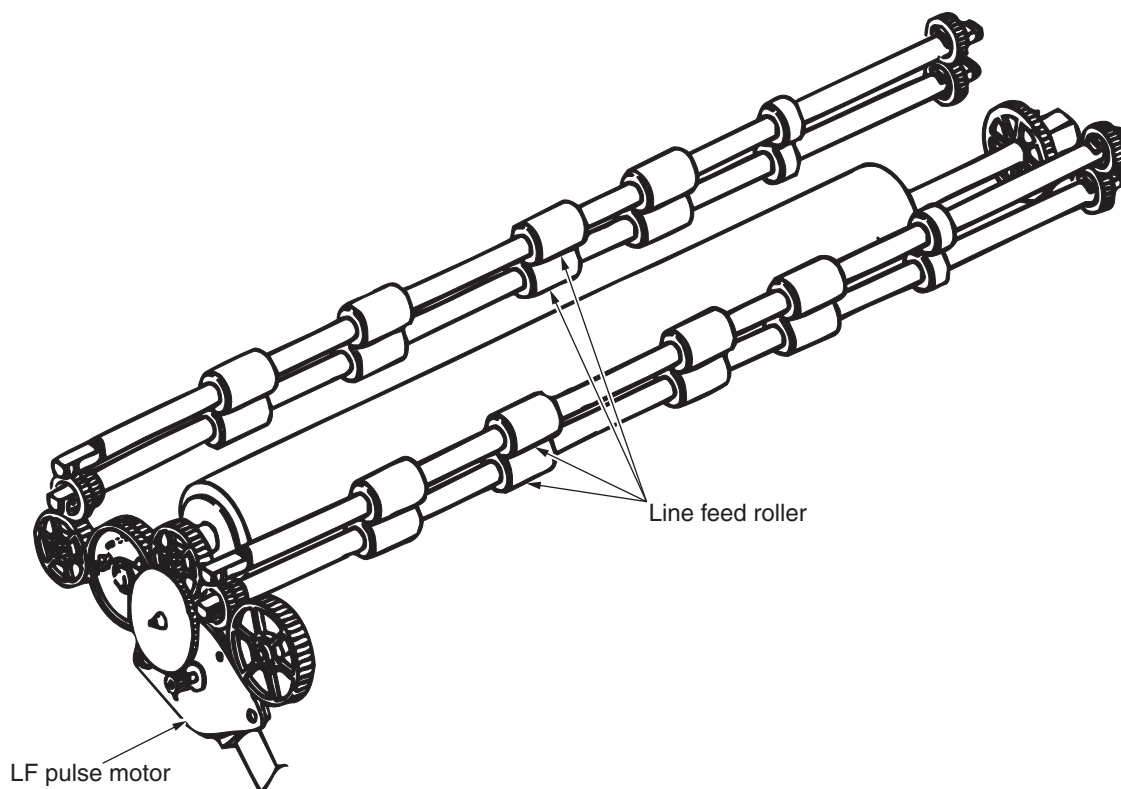

Figure 2-7
- (1) Cut-sheet feeding operation (See Figure 2-7.)